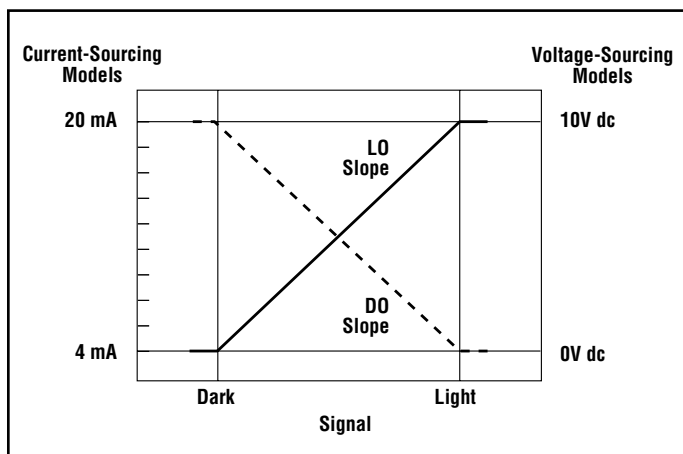

Figure 2. Analog output as a function of target position – two setpoints (static or dynamic)
Teaching two setpoints (static or dynamic): The sensor sets the first taught condition to the highest output level (either 20 mA or 10V), and the second taught condition to the lowest level (either 4 mA or 0V), and scales between these points. If the first condition taught has more returned light, the sensor will be in Light Operate mode (LO). If the first taught condition is darker, the sensor will be in Dark Operate mode (DO). To change the slope of the analog output (refer to Figure 2), toggle LO/DO in Setup (page 9).